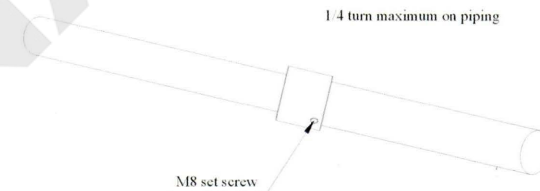

Figure 7: Loosening Locking Nut
4. Loosen the clinch assembly starting by unscrewing the set screw in the side of locking nut, then backing off the locking nut (see Figure 7).